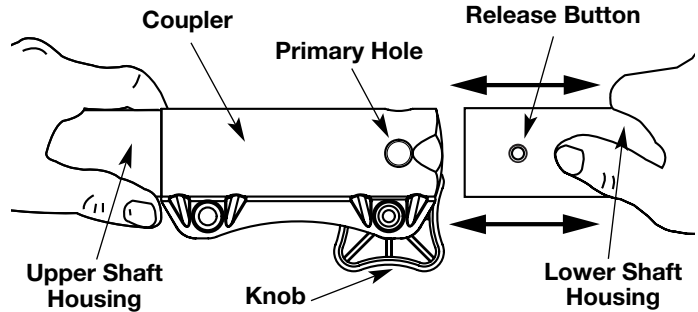

Fig. 2
3. While firmly holding the upper shaft housing, pull the garden cultivator Add-On out of the coupler (Fig. 2).
3. While firmly holding the add-on, push it straight into the coupler (Fig. 2).
CAUTION: Lock the release button in the primary hole (Fig. 2) and securely tighten the knob before operating this unit.